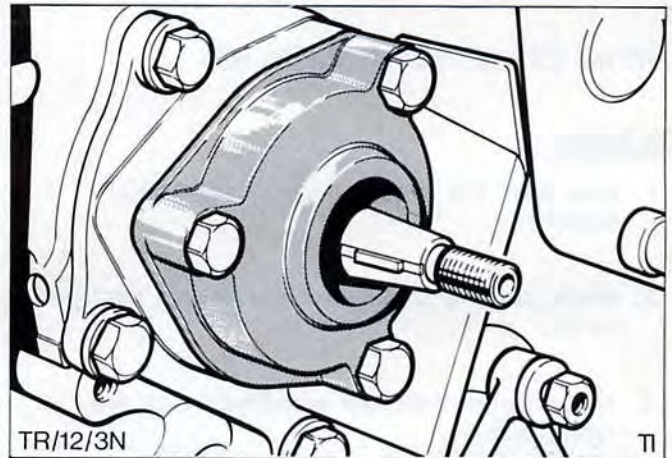

Fig.55. Remove seal and seal housing.
9. Remove seal housing and seal assembly, Fig.55.